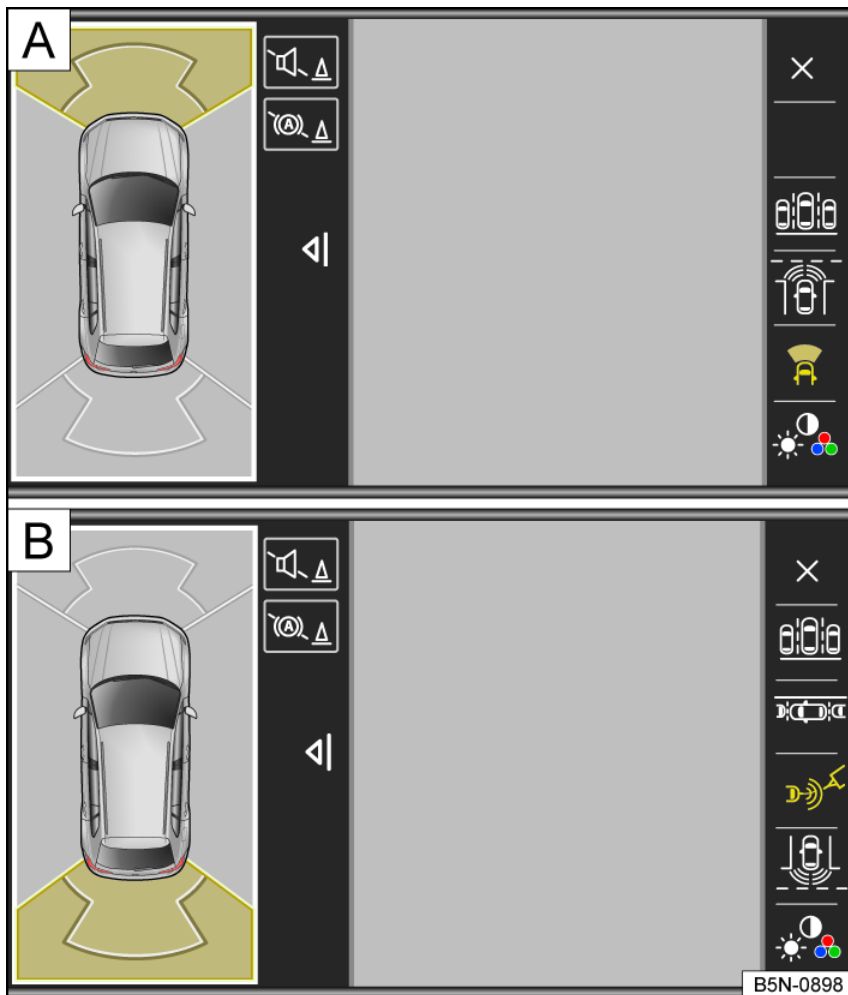

Fig. 146 Infotainment system: screen display of Area View.
1. Tap the function keys on the image border to select a display fig. 146.
Two sections of the screen will be shown in the Infotainment system fig. 146: